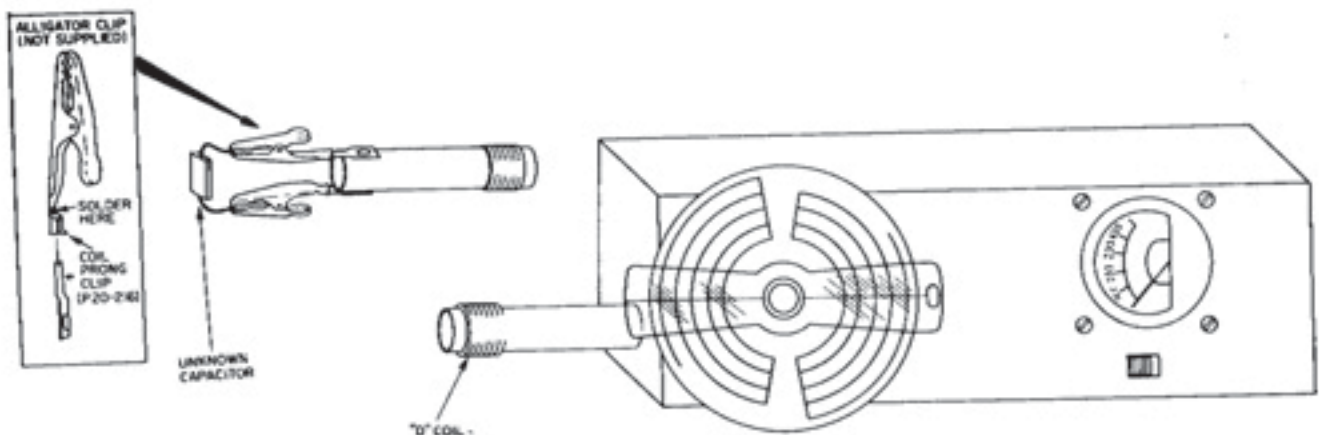

Figure 15. Measuring Capacitance
Unknown values of capacitors between the range of 50 mmf to 7000 mmf can be measured using the Grid-Dip Meter as the measuring instrument. Figure 15 illustrates the basic principle used for this measurement. The unknown capacitor is connected in parallel with one of the coils supplied with the G-15. This coil and condenser combination forms a resonant circuit. The Grid-Dip Meter, in conjunction with "D" coil, is now used to obtain a resonance indication. The resonance indication, in conjunction with the graphs of figure 16, is finally used to ascertain the value of capacitance.
1. Using the alligator clip adapters illustrated in figure 15, connect the unknown capacitor across any one of coils "E", "F", or "G".